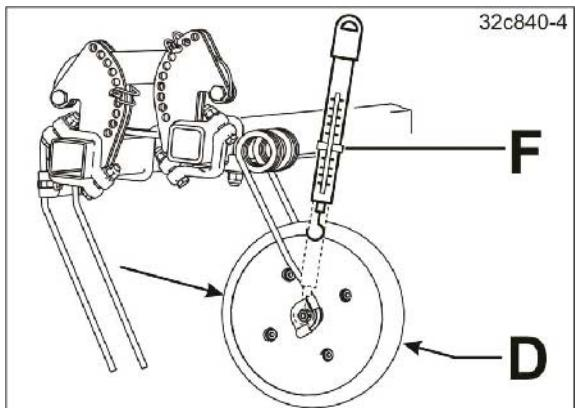

Fig. 6
4. Check the roller pressure on the ground using e.g. a spring scale (see Fig. 6).